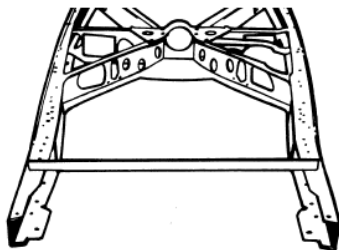

Figure 1- Welding Temporary Brace
3. We would recommend that at this point, you tack weld or clamp a temporary brace across the frame rails in front of the old crossmember as shown in **Figure 1**. This helps to maintain the rail dimension after the old crossmember is removed.